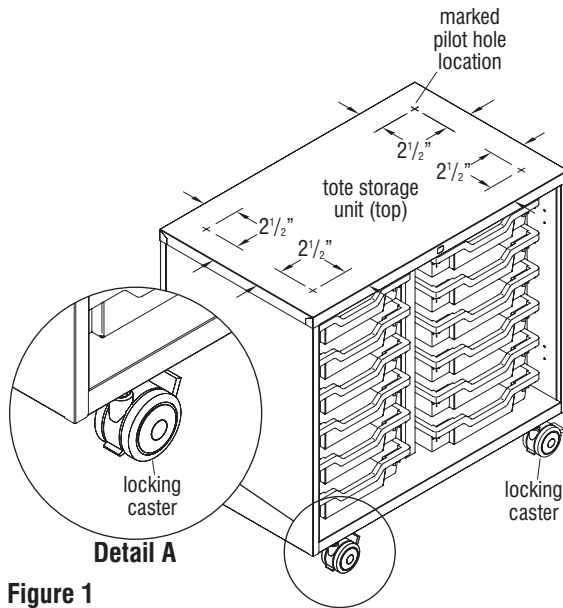

Figure 1
2. If casters are assembled to the tote storage unit, engage the locks on the casters to prevent the unit from moving (Figure 1 & Detail A).
3. Use a tape measure and pencil to locate and mark four pilot hole locations to the top of the storage unit. As illustrated, each marked location should be near each corner and be $2\frac{1}{2}$ " in from the front/back and right/left-hand sides of the top of the storage unit (Figure 1).